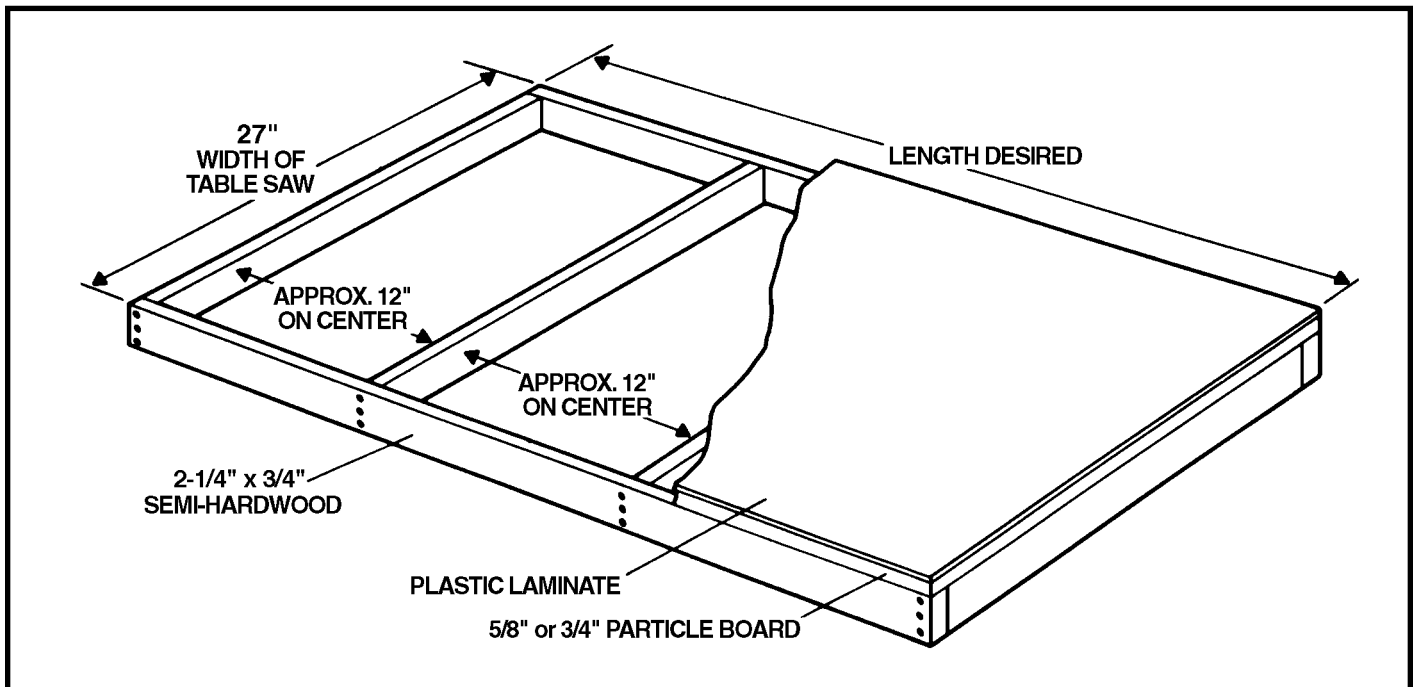

Fig. 81
6. If the accessory right extension table for use with the T-Square® fence was not purchased, construct an extension table by following the dimensions shown in Fig. 81.